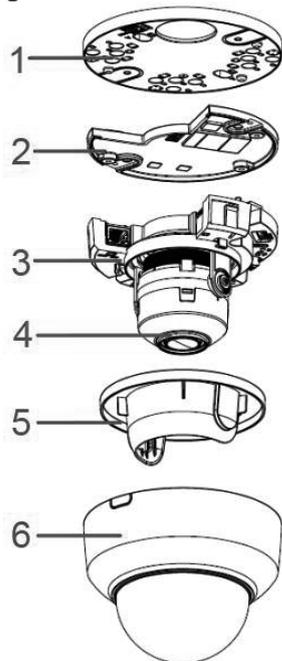

Figure 1
13. Hold the camera dome (6) (Figure 1) up to the camera base and rotate the camera dome to securely lock it to the camera base.
Camera Parts: Figure 1
5. Gently pull up and remove the camera lens cover (5) (Figure 1) to easily access the cable connections and buttons.
7. Before you secure the mounting plate (1) (Figure 1) to the camera base (2) (Figure 1) you must place the cable through the cable hole on the camera mounting plate.
12. Insert the camera lens cover (5) (Figure 1) on to the camera lens.
- Hold the camera dome (6) (Figure 1) with one hand and rotate the camera base (2) (Figure 1) to unlock it and remove it from the dome.
- Hold the camera dome (6) (Figure1) up to the camera base (2) (Figure 1) and rotate the camera dome to securely lock it to the camera base.